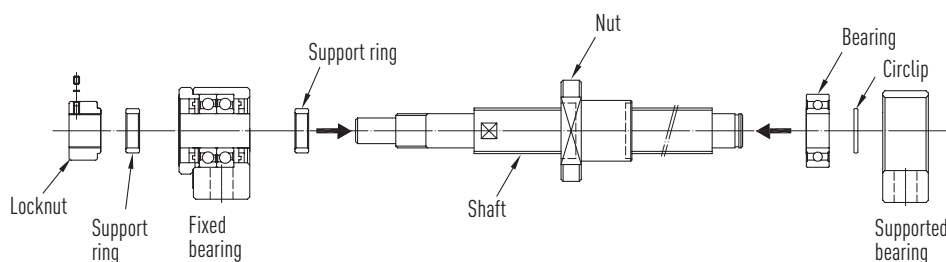

Fig. 4.17 Exploded view of the ballscrew with bearing units
- ▶ Using the circlip, secure the supported bearing to the ballscrew spindle (see Fig. 4.17).